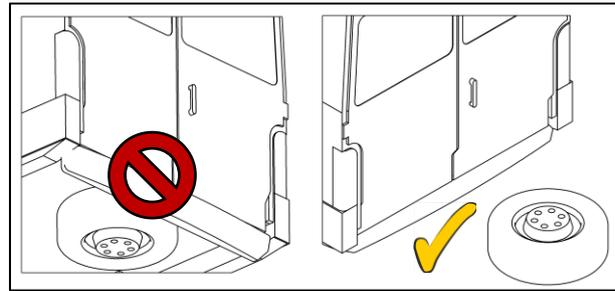

Fig. 6
- If the vehicle has a spare tire between the rear axle and the rear bumper, remove the tire (see Fig. 6).